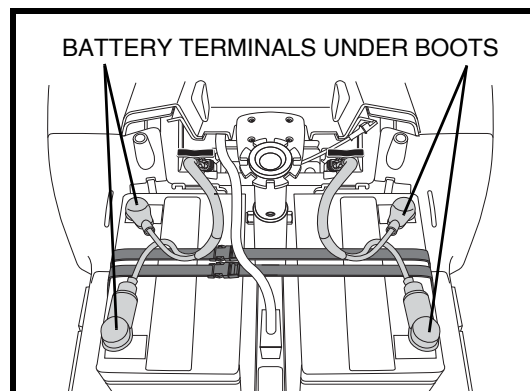

Figure 12. Battery Removal/Installation
3. Disconnect the battery harnesses by pulling them straight up. **See figure 12.**